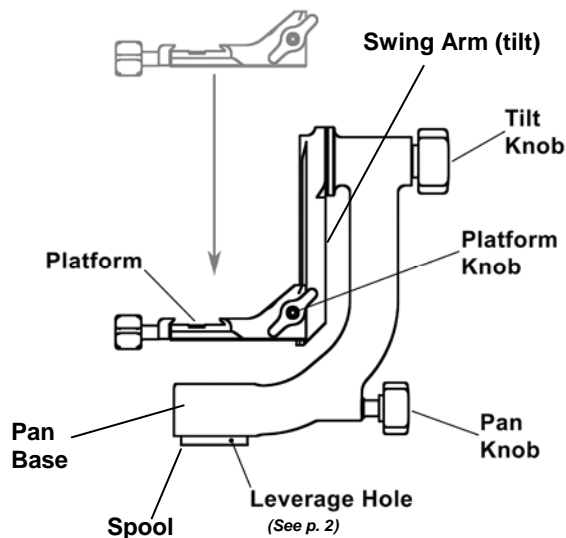

Figure 1
- **Loosen the wing knob on the platform (avoid tightening the wing knob if it is not mounted on the swing arm), and slide the platform onto the swinging arm of the Head (see Fig. 1).**
**USING THE LEVERAGE HOLE:** The spool of the Head should be flush with the tripod platform surface. **Insert the long arm of a 5/32 hex key (or a metal rod of similar size and strength, such as a blunted concrete nail or small screwdriver) into the small leverage hole on the side of the spool (see Fig. 1).** (Most Arca-Swiss style quick-release plates come with a 5/32 hex key for their fasteners.) This will allow you to use leverage to tighten or loosen the Head further. **NOTE:** This side hole is not threaded or keyed to fit a hex key specifically, thus the hex key will not loosen anything internally in the panning base, and it will not turn anything inside the hole.